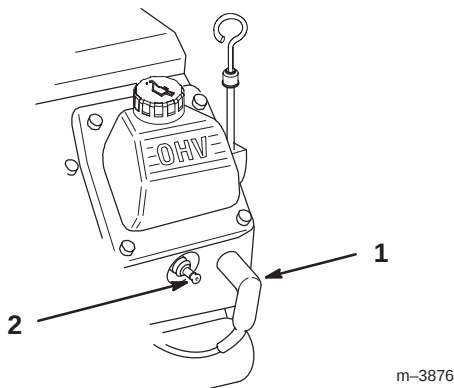

Figure 29
2. Pull the wires off of the spark plugs (Fig. 29).
3. Push the wires onto the spark plugs (Fig. 29).